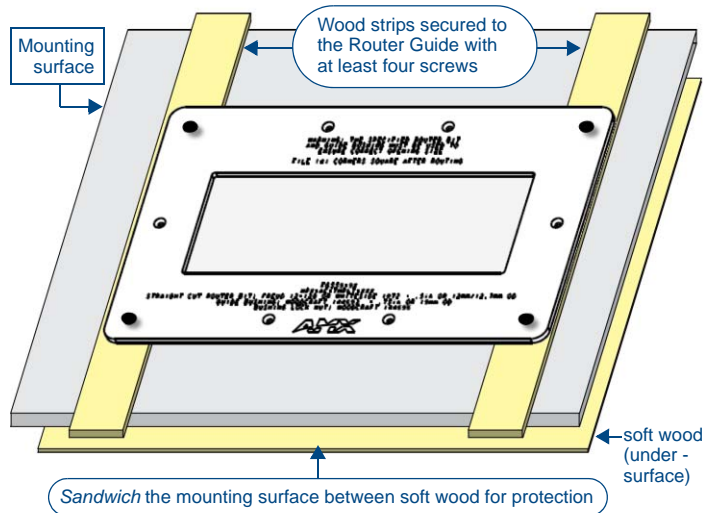

FIG. 6 Position the Router Guide and protective soft wood strips for installation
3. Position a sheet of soft wood beneath the mounting surface to “sandwich” the mounting surface with soft wood. This will protect both sides of the mounting surface during installation (FIG. 6):